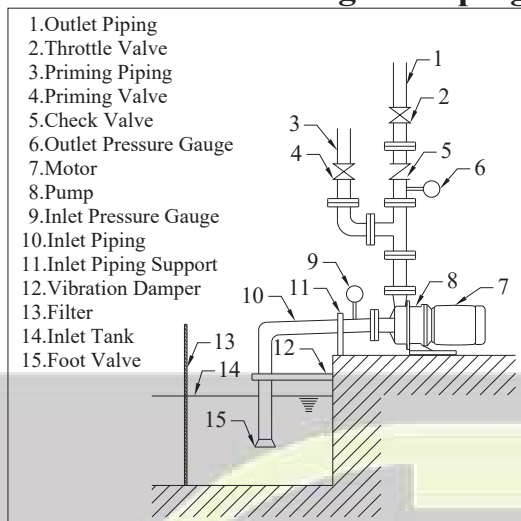
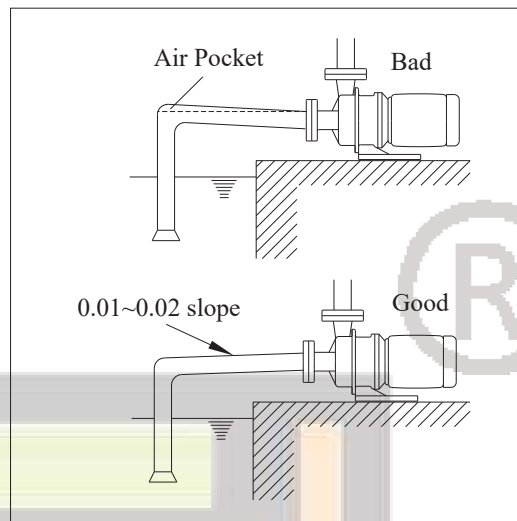

Fig. 4.1
Fig. 4.2
General requirements Suction System	(1) Suction condition must satisfy $NPSH_a > NPSH_r + 0.5$ m. (2) Minimize suction piping loss by using straight and short piping. (3) The piping should be supported adequately (see Fig. 4.1). The pump should not be used for piping support. (4) Effects of temperature changes should be factored into the support structure design to prevent thermal stress buildup. (5) Suction piping and connectors should be hermetically sealed to prevent drawing in air during operation. (6) The suction piping should not be allowed to collect air. There should be a 0.01~0.02 upward slope towards the pump (see Fig. 4.2). (7) There should not be any elbows within 5D (5 times diameter) distance from the pump opening. The elbow closest to the pump suction should be a long radial elbow.
Foot valve	Install a foot valve if negative suction or upward suction is used (see Fig. 4.1).